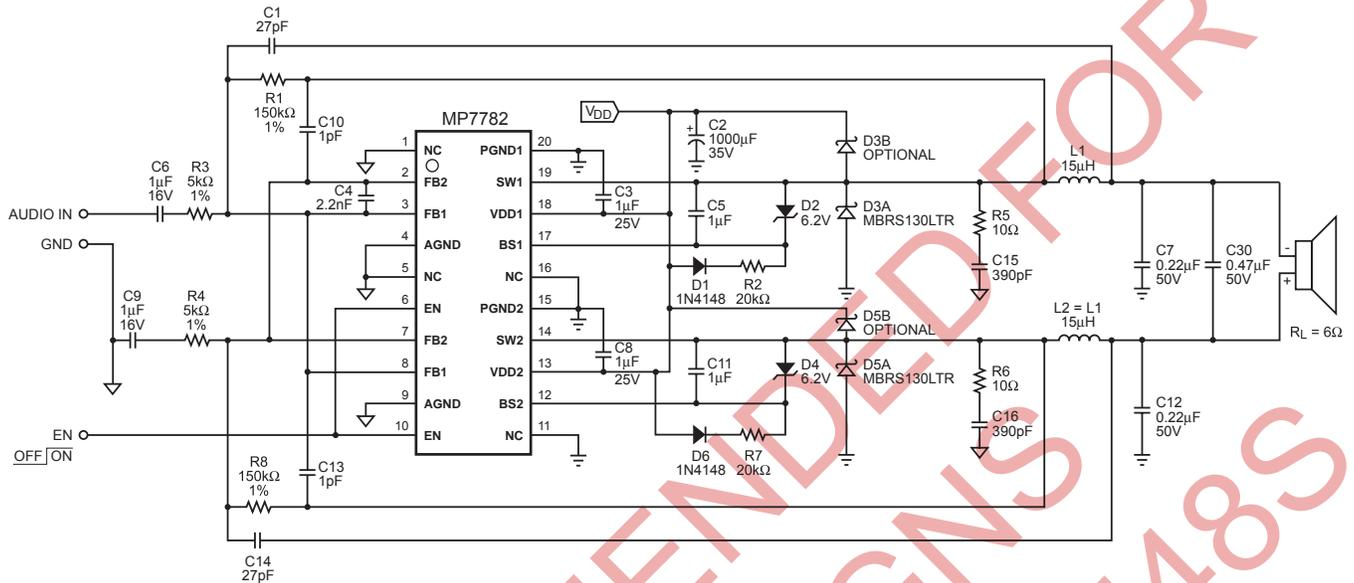

Figure 1 — 50W Class D BTL Amplifier (V_{DD} = 24V)
(Circuit of Figure 1, $V_{DD} = 24V$, $V_{EN} = 5V$, $T_A = +25^\circ C$, unless otherwise noted.)
Circuit of Figure 1, $V_{DD} = 24V$, $T_A = +25^\circ C$
The MP7782 uses a minimum number of external components to complete a fully bridged Class D audio amplifier. The circuit in Figure 1 shows a typical application. Use the following sections to customize the amplifier for your particular application.
Two identical LC filters are required in the typical application. The inductor-capacitor (LC) filter is a second order filter that converts the pulse train at SW (pins 14, 19) to the output differential signal that drives the speaker. Typical values for the LC filters are shown in Figure 1. The characteristic frequency of the LC filter needs to be high enough to allow high frequency audio to reach the output, yet needs to be low enough to filter out high frequency contents of the pulses from SW. The characteristic frequency of the LC filter is: